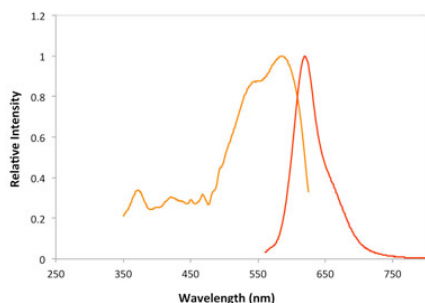
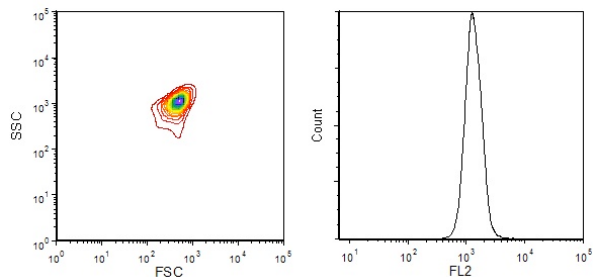

Figure 1. Excitation and emission spectra of Zepto™ Red Carboxyl Microspheres.
Figure 2. FSC-SSC plot and fluorescence histogram in FL2 of Zepto™ Red Carboxyl Microspheres on a flow cytometer.
The excitation and emission spectra are illustrated in Figure 1. They are a suitable for flow cytometry-based assays. Their Forward Scatter (FSC) vs. Side Scatter (SSC) plot and fluorescence histogram in FL2 (488 nm excitation; 590 nm emission) on a typical flow cytometer are illustrated in Figure 2.
1. Gate on the single population of microspheres on FSC vs. SSC plot (refer to Figure 2)